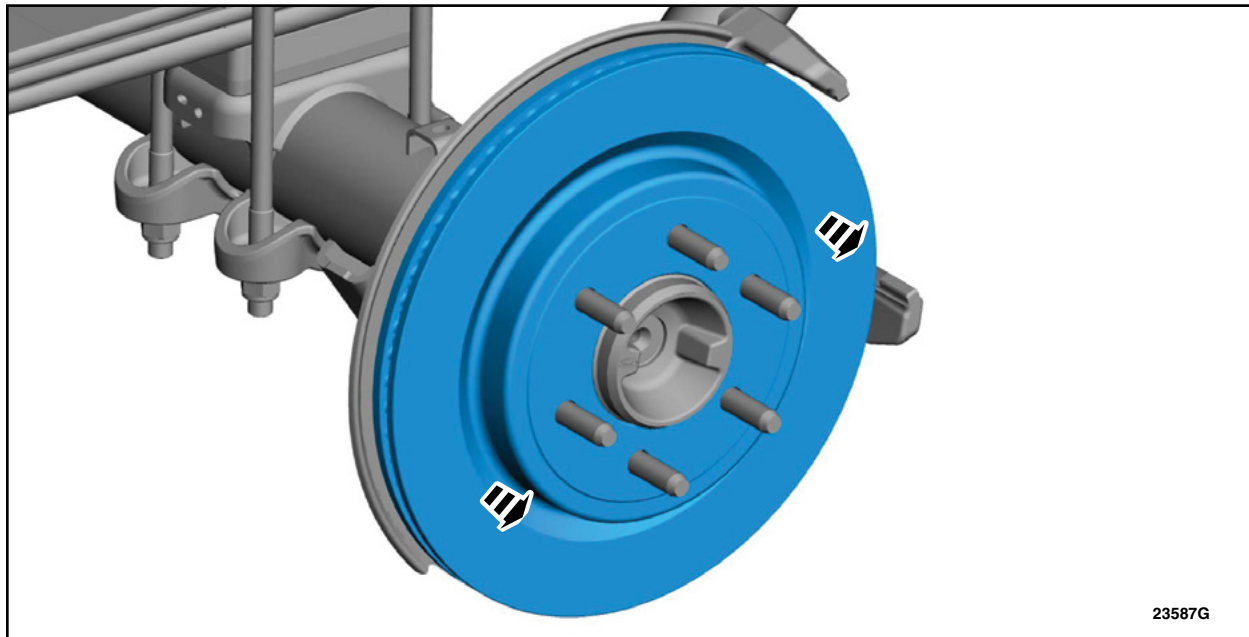

FIGURE 3
8. On both sides, remove the brake disc. See Figure 3.